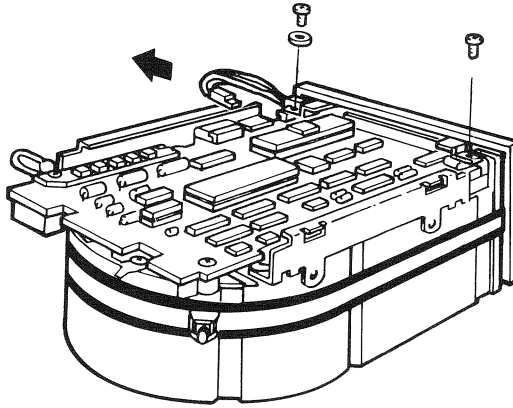

Figure 10-10 Two-Pin Connector and Screw Removal
2. Unplug the two-pin connector (Figure 10-10).